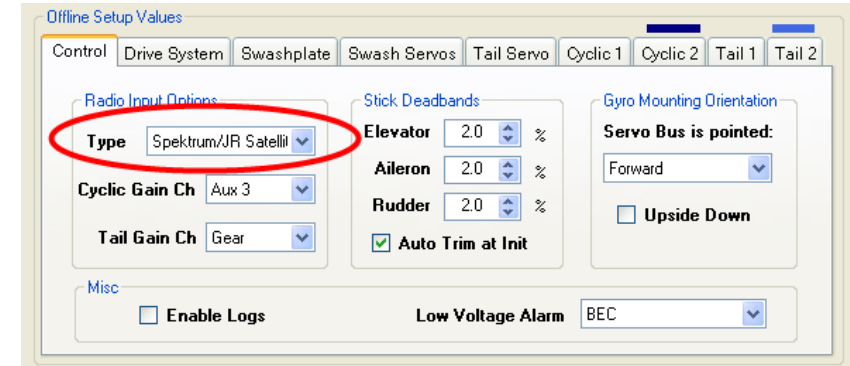

Figure 11.1 – Selecting Receiver Type
- Click the *Control* tab in the *Offline Setup Values* area in the lower half of the setup software window (see Figure 11.1 below). Select the type of receiver that you will be using by choosing one of the options in the *Type* box.